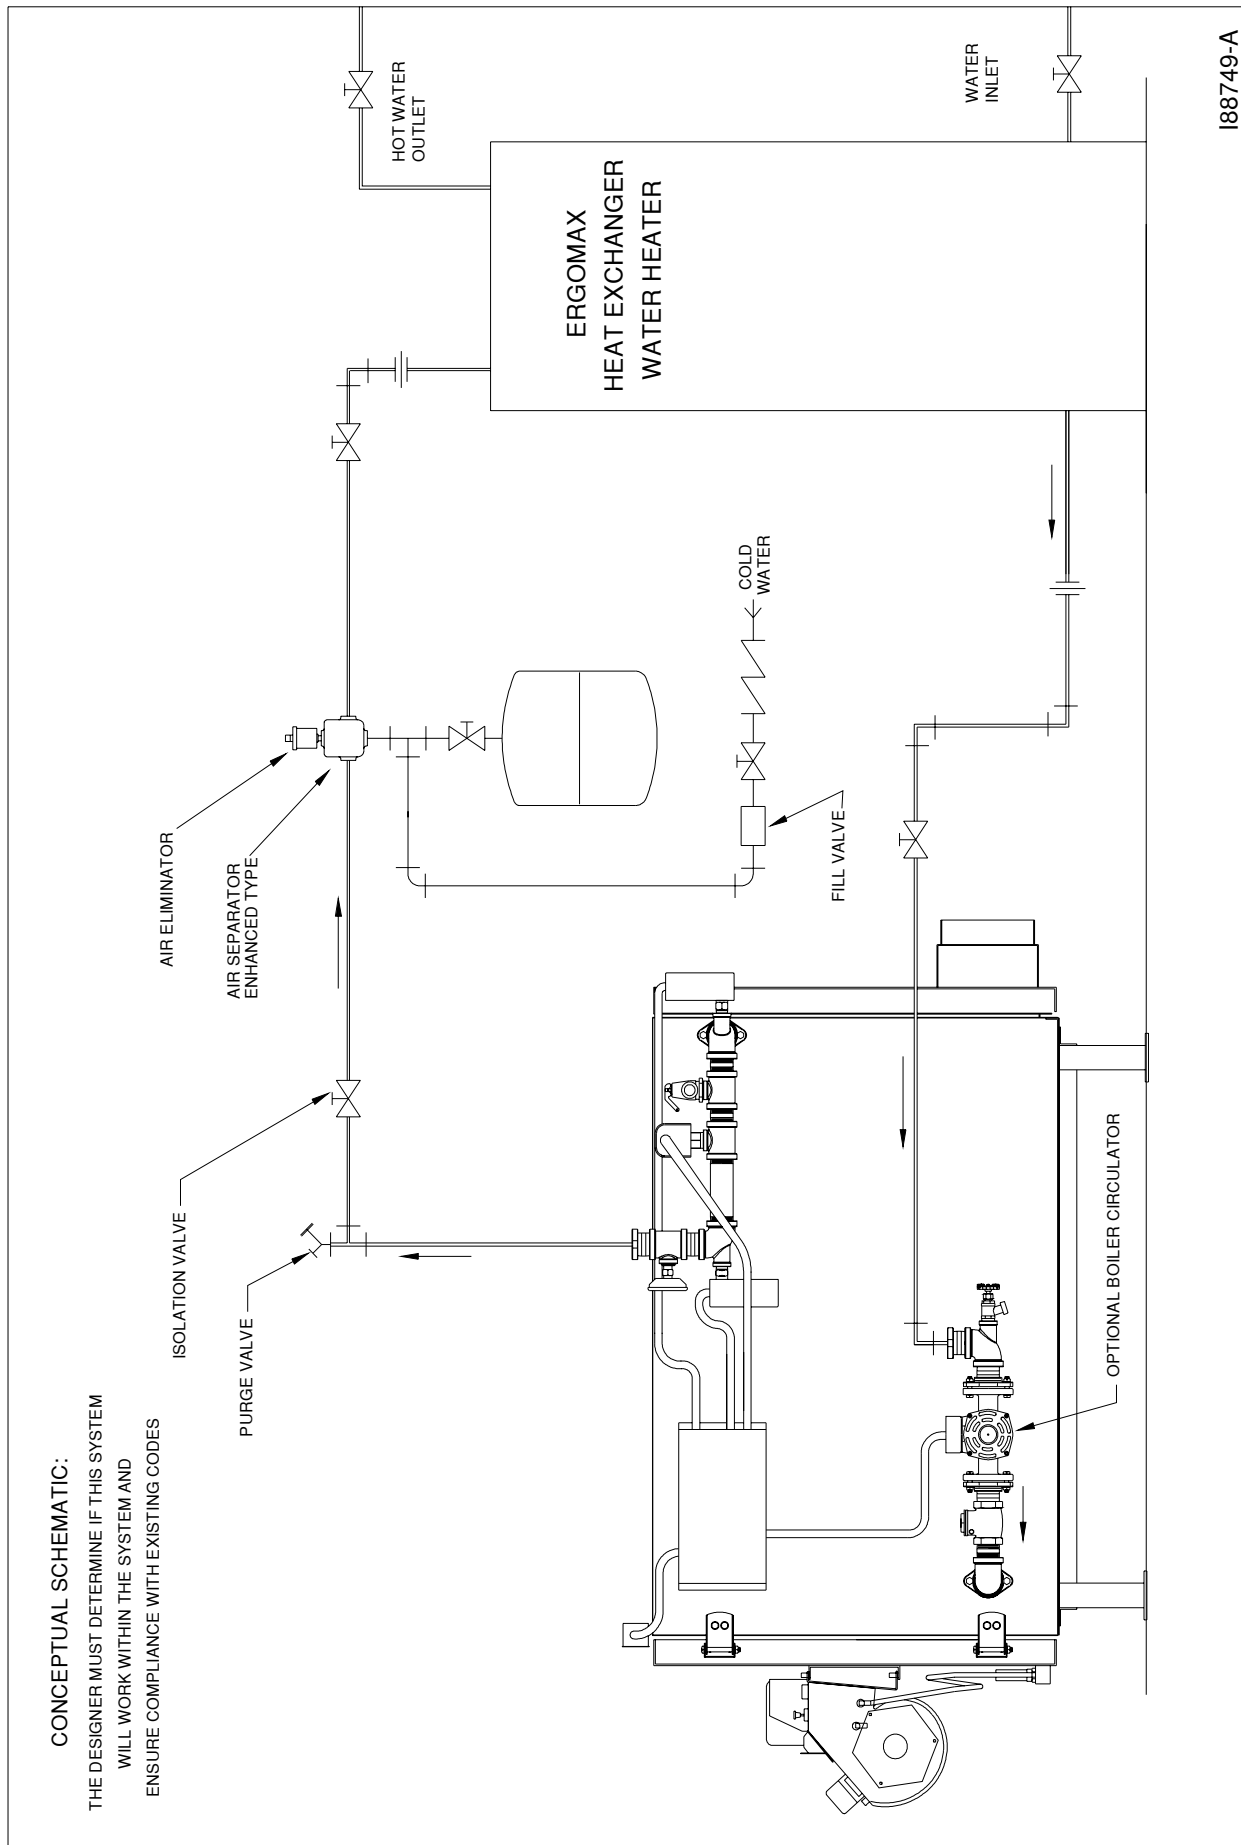

Figure 10C - CB-350-CTB with Ergomax Indirect Water Heater
(3) *If hot water is required in the system installation for washing or other related activities, Clean Burn offers Ergomax Heat Exchangers/Storage Tanks in 182, 273, and 450 liter sizes (48, 72, and 119 gallon sizes). Contact your local Clean Burn representative for additional details on these CTB system components. Refer to Figure 10C for a sample system configuration using an Ergomax Heat Exchanger. This configuration is ideal for installations requiring pressure washing, car/truck washing, etc. The Ergomax unit works well with a CTB because it stores boiler water in the tank and acts as a buffer (tempering) tank while enabling reduction of short cycling.*